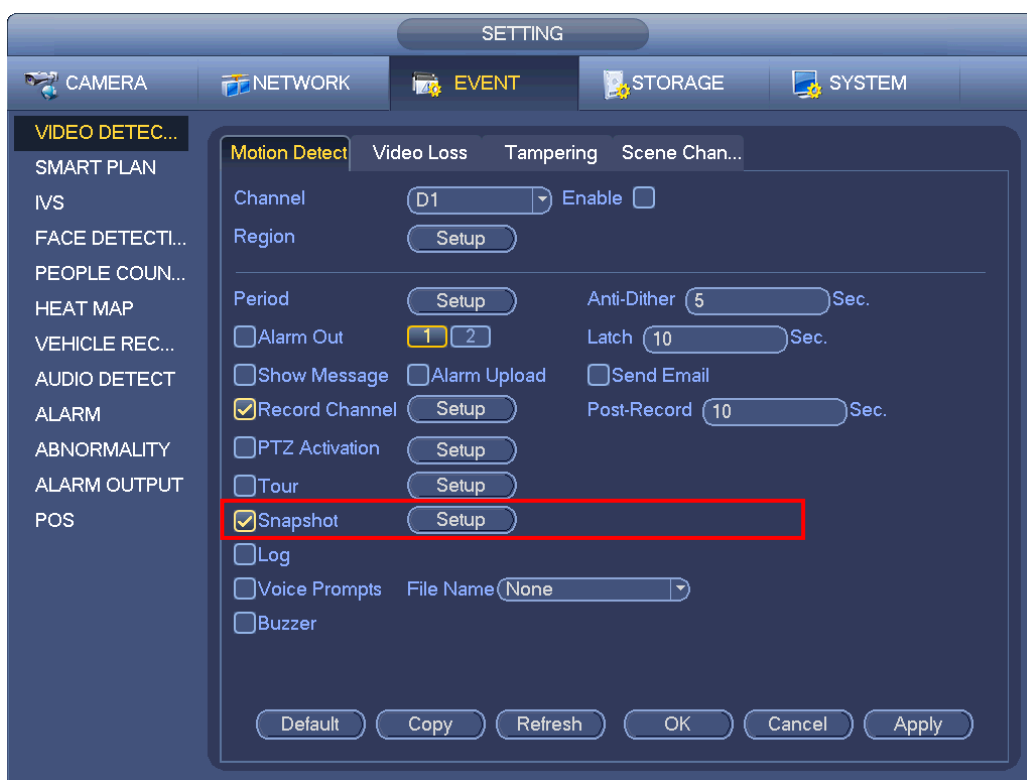

Figure 4-33
- When the record type is MD (motion detect), alarm, MD&Alarm, IVS and POS, please enable the channel snapshot function when corresponding alarm occurs. For example, when the alarm type is MD, from main menu->Setting->Event->Video Detect->Motion Detect, please select the snapshot channel and enable snapshot function. See Figure 4-33.